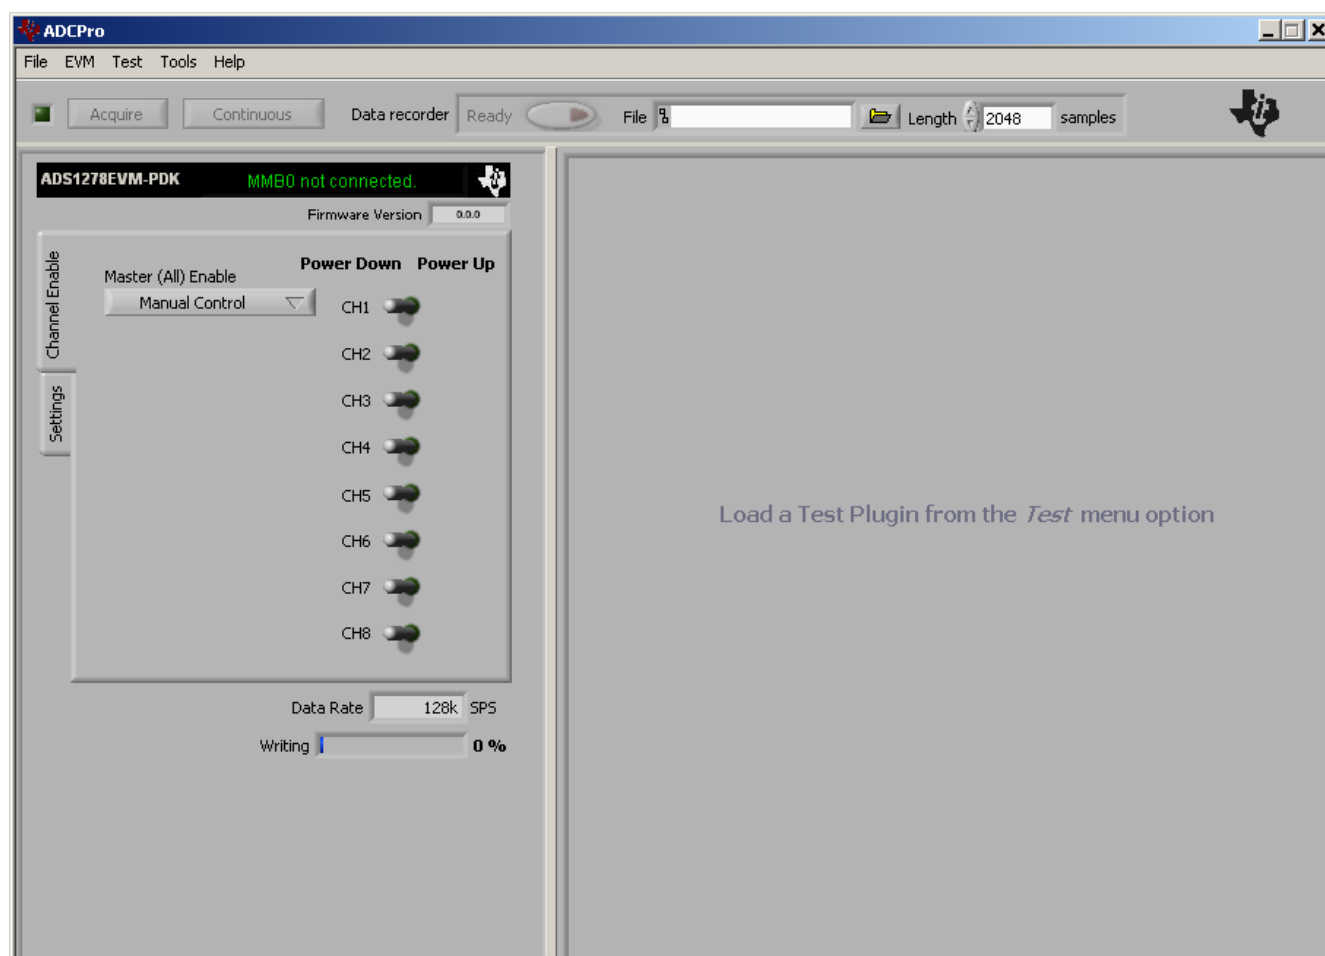

Figure 13. ADS1278EVM-PDK Plug-In Display Window
2. Select *ADS1278EVM* from the EVM drop-down menu. The ADS1278EVM-PDK plug-in appears in the left pane, as shown in Figure 13.
The ADS1278EVM-PDK plug-in for ADCPro provides complete control over all settings of the ADS1278. It consists of a tabbed interface (see Figure 13), with different functions available on different tabs. These controls are described in this section.